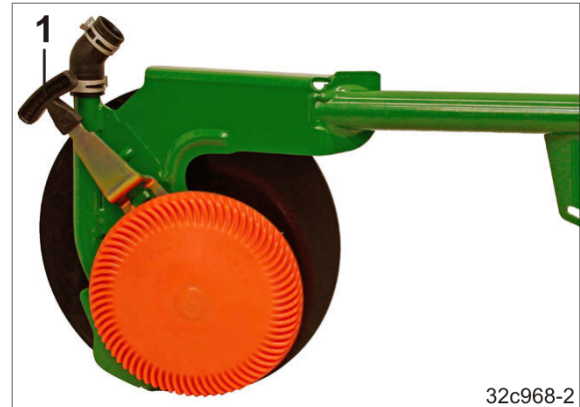

Fig. 179
1. Allow the handle (Fig. 179/1) to engage in the desired position.